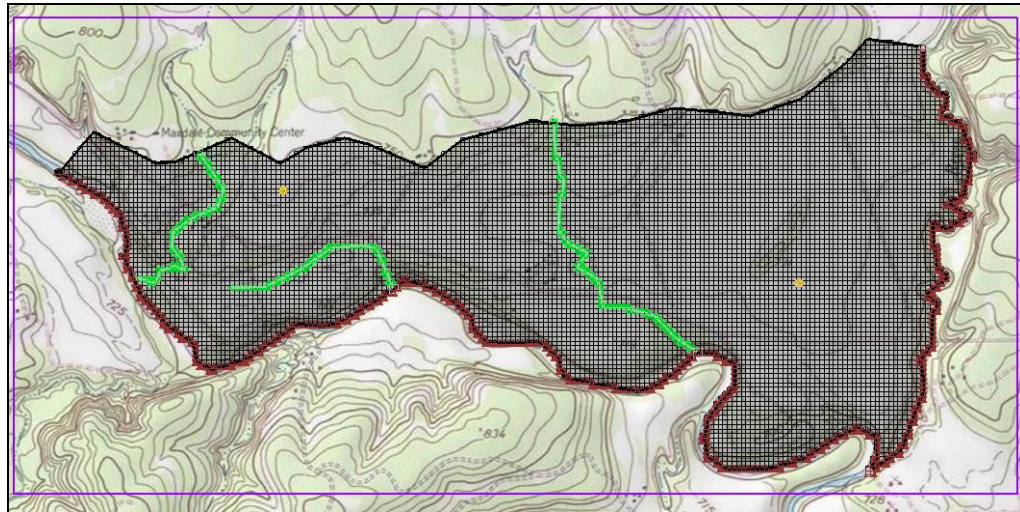

Figure 8 After the conceptual model is converted to MODFLOW
2. Select *All applicable coverages* and click **OK** to close the *Map → Model* dialog. The Graphics Window should appear as in Figure 8.